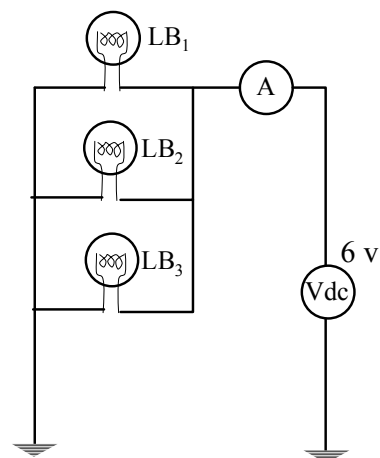

Figure 2.3.16. Light bulbs in parallel.
**Light bulb parallel circuits.** Now wire the bulbs in parallel, as in Figure 2.3.16, again installing each light bulb one at a time. Notice that the addition of each bulb has no effect on the brightness of the other bulbs. Also notice that as you add each bulb, you are decreasing the resistance in the circuit, and therefore increasing the sum of the currents through all of the branches. Historically, the first city electrical systems were simply lights wired in series. Thomas Edison quickly recognized this problem with series circuits, and designed the parallel circuit - an ingenious innovation for the time.